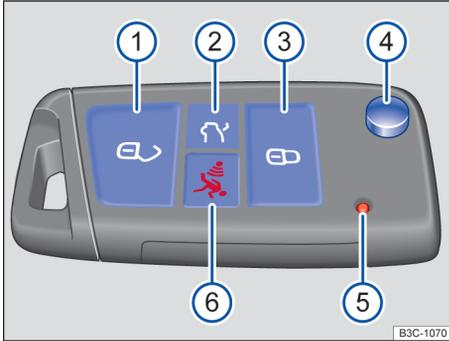

Fig. 48 Remote control vehicle key with panic button.
Key to fig. 48:
- *To fold the key bit out:* Press button → fig. 48 to release the key bit and fold it out.
Press the panic button → fig. 48 only in emergencies! After pushing the panic button, the horn will sound and the turn signals will flash. Press the panic button again or press the button on the remote control vehicle key to switch off the panic feature.